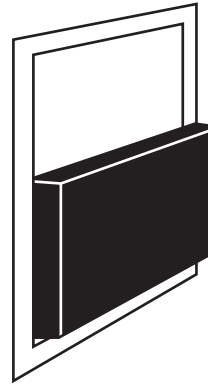
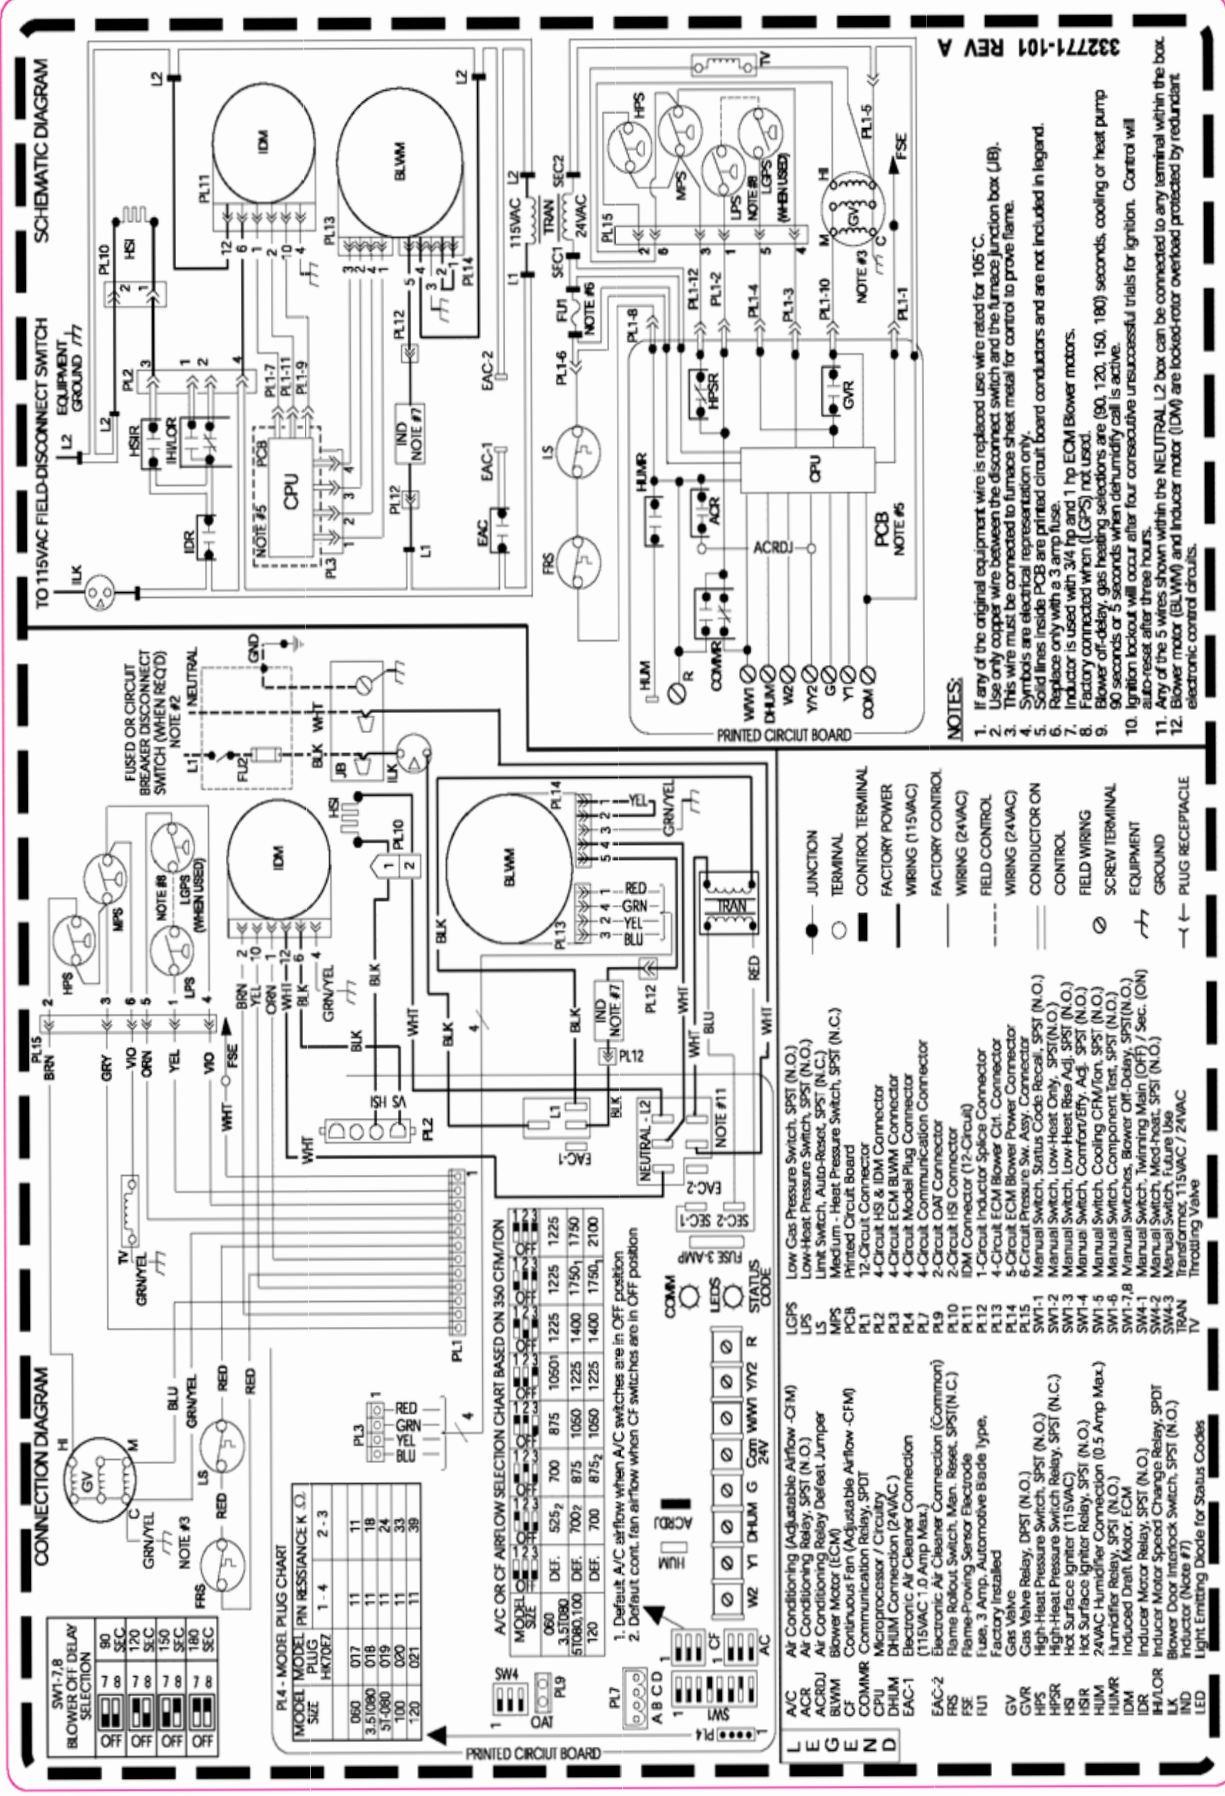

Fig. 48 - Example of Setup Switch in Off Position
Fig. 49 - Wiring Diagram
4. Use Fig. 47 or wiring schematic to determine proper setup position of A/C switches. (See Fig. 48 and Fig. 49.)
4. Use Fig. 47 or wiring schematic to determine proper setup position of CF switches. (See Fig. 48 and Fig. 49.)
3. See Table 9 for setup switch description. (See Fig. 48 and Fig. 49.)
3. See Table 5 for setup switch description. (See Fig. 40 and Fig. 49.)
Using the schematic diagram (See Fig. 48), follow the sequence of operation through the different modes. Read and follow the wiring diagram very carefully. !!